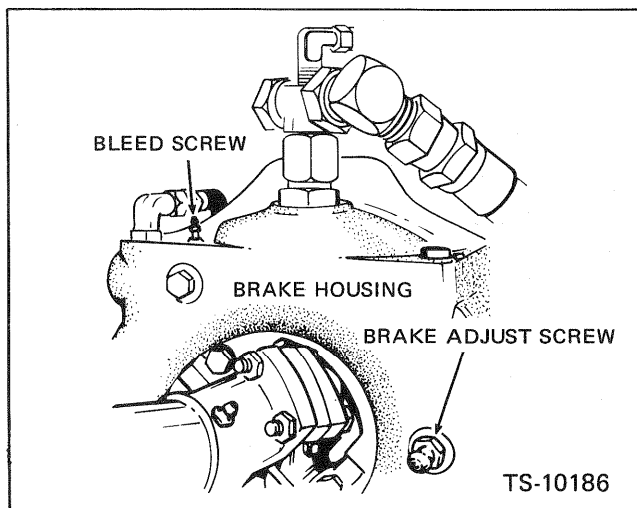

Fig. 13-3 Bleed and Adjust the Brake
2. With the aid of a helper, open the bleed screw on the brake housing in Fig. 13-3 and depress the brake pedal to expel any air and fluid from the lines.
To insure correct and adequate braking pressure, the brake should be adjusted periodically or whenever necessary. To adjust the brake, loosen the locknut on the adjust screw, Fig. 13-3, tighten the adjust screw clockwise until it is secure. Then loosen the adjust screw counter-clockwise one complete turn and secure with the locknut.